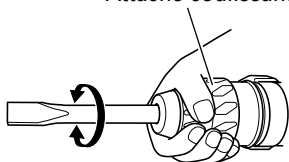

Fig. 8
- (c) Turn the grip as illustrated in Fig. 8 and fix the tool to the desired working direction.